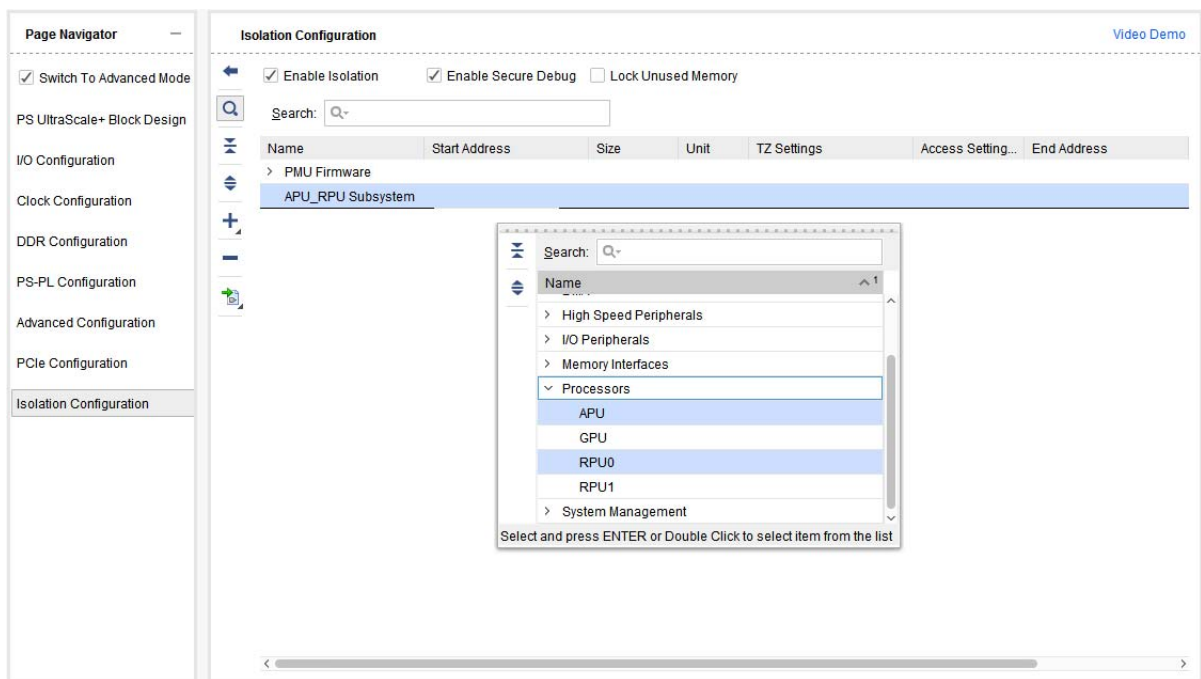

Figure 4-22: Adding Masters
3. Right-click **APU_RPU Subsystem** and then click **Add Master**. Select **APU,RPU0** from processors category as shown in Figure 4-22.